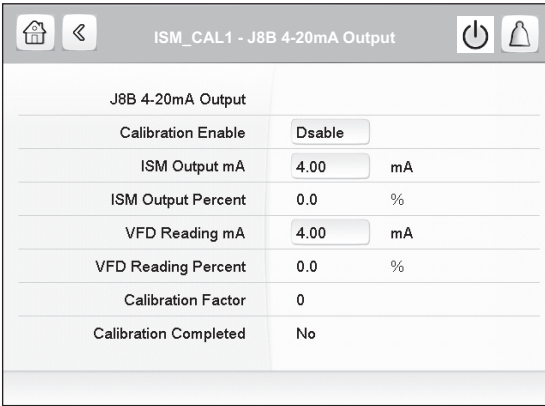

Fig. 41 — ISM_CAL1 Screen
2. Select J8B 4-20mA Output. The ISM_CAL1 screen is displayed. See Fig. 41.